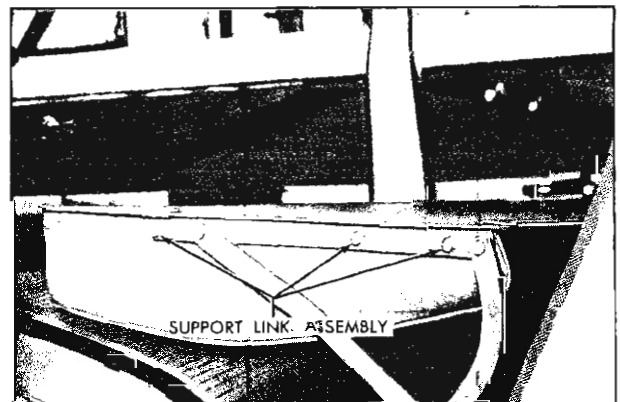

Fig. 17-7 Folding Seat Back Mounting Support Link Assembly
3. At each side of seat, remove screws securing mounting support link assembly to folding seat back assembly (Fig. 17-7).
4. Remove mounting support to folding seat back attaching screws as shown in Fig. 17-7 and remove mounting support link assembly from body.